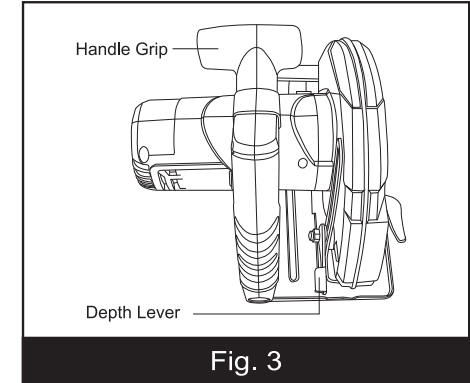

Fig. 3
2. To adjust the depth of the cut, lift Depth Lever and move base plate down (or up) while observing the amount of saw blade exposed under base plate. Push down on the Depth Lever to lock in new depth setting. (Fig. 3)